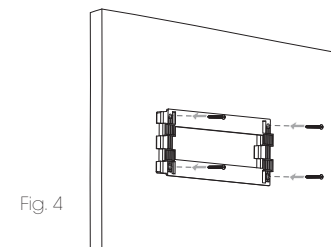

Fig. 4
- Install the mounting brackets using the screw provided. Make sure to secure tightly so there is no movement in the brackets. Refer to (Fig. 4)